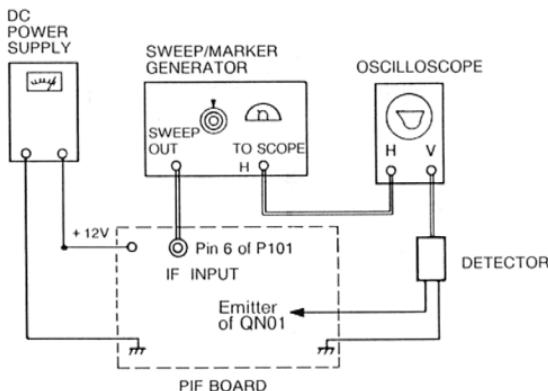

Figure 4.
- GENERAL ..... Refer to figure 4 for the equipment connection.
SWEEP/MARKER GENERATOR ..... Connect to pin 6 of P101 on the PIF Board as shown in figure 4. Set to 30 to 40 MHz sweep with signal level of 75 to 85 dB $\mu$ .